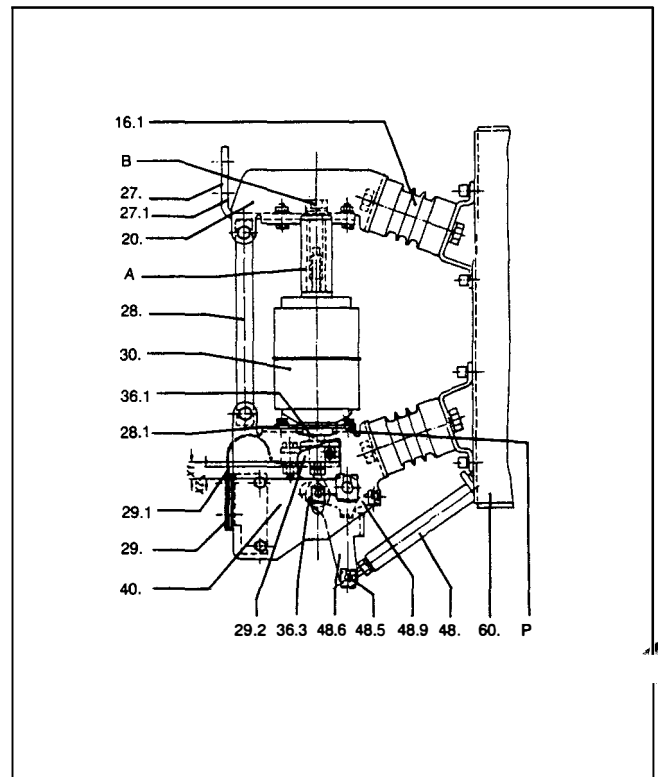

Figure 7
When the contacts separate, the current to be interrupted initiates an ionized metal vapor arc discharge and flows through this plasma until the next current zero. The arc is then extinguished and the conductive metal vapor condenses on the metal surfaces of the arcing chamber, (33), (Fig. 7) within a matter of microseconds. As a result, the dielectric strength in the increasing contact gap builds up very rapidly.